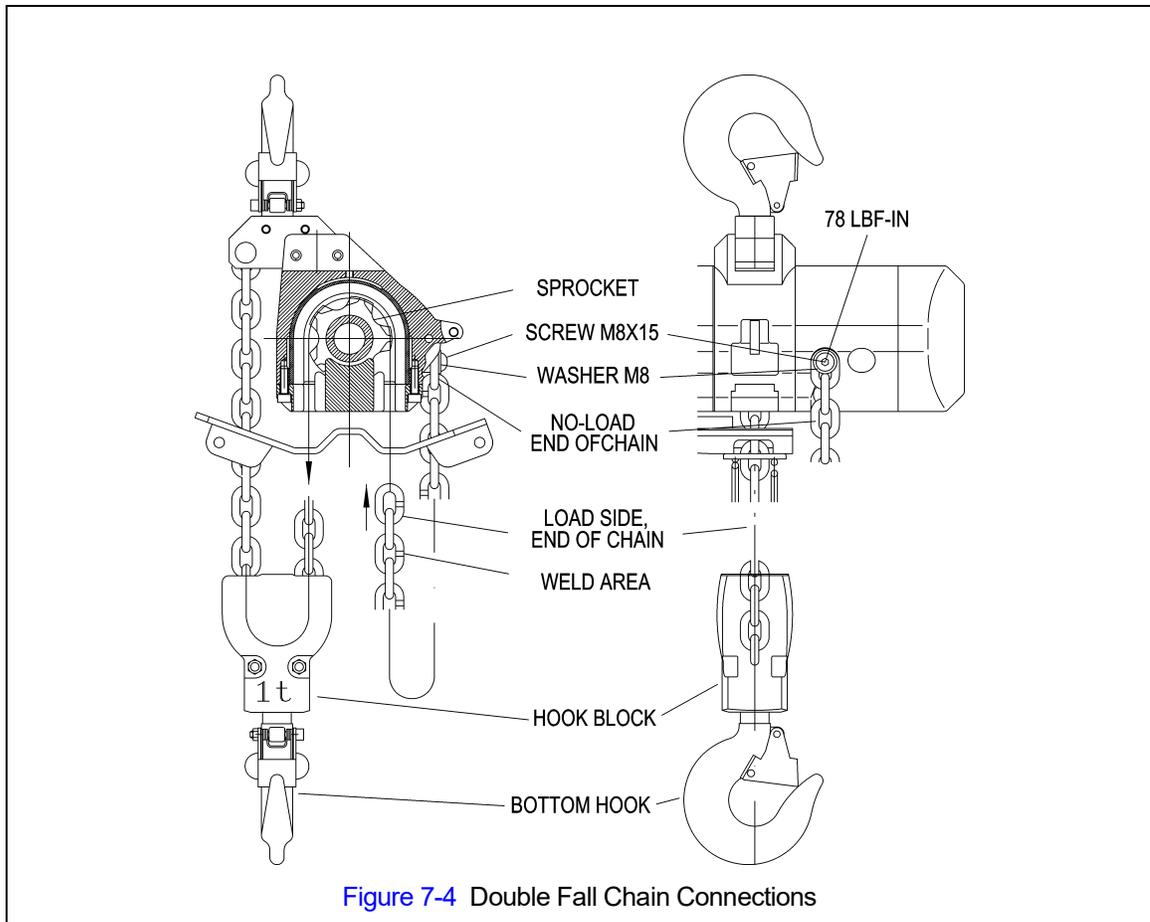

Figure 7-4 Double Fall Chain Connections
- 12) Ensure that of the Chain remains free of twists and attach the no-load end of the chain to the hoist body with the Flat Washer and Button Head Screw. Reinstall the Bottom Hook Complete Set. Torque the Button Head Screw to 78 lbf-in. Refer to Figure 7-3 and Figure 7-4.